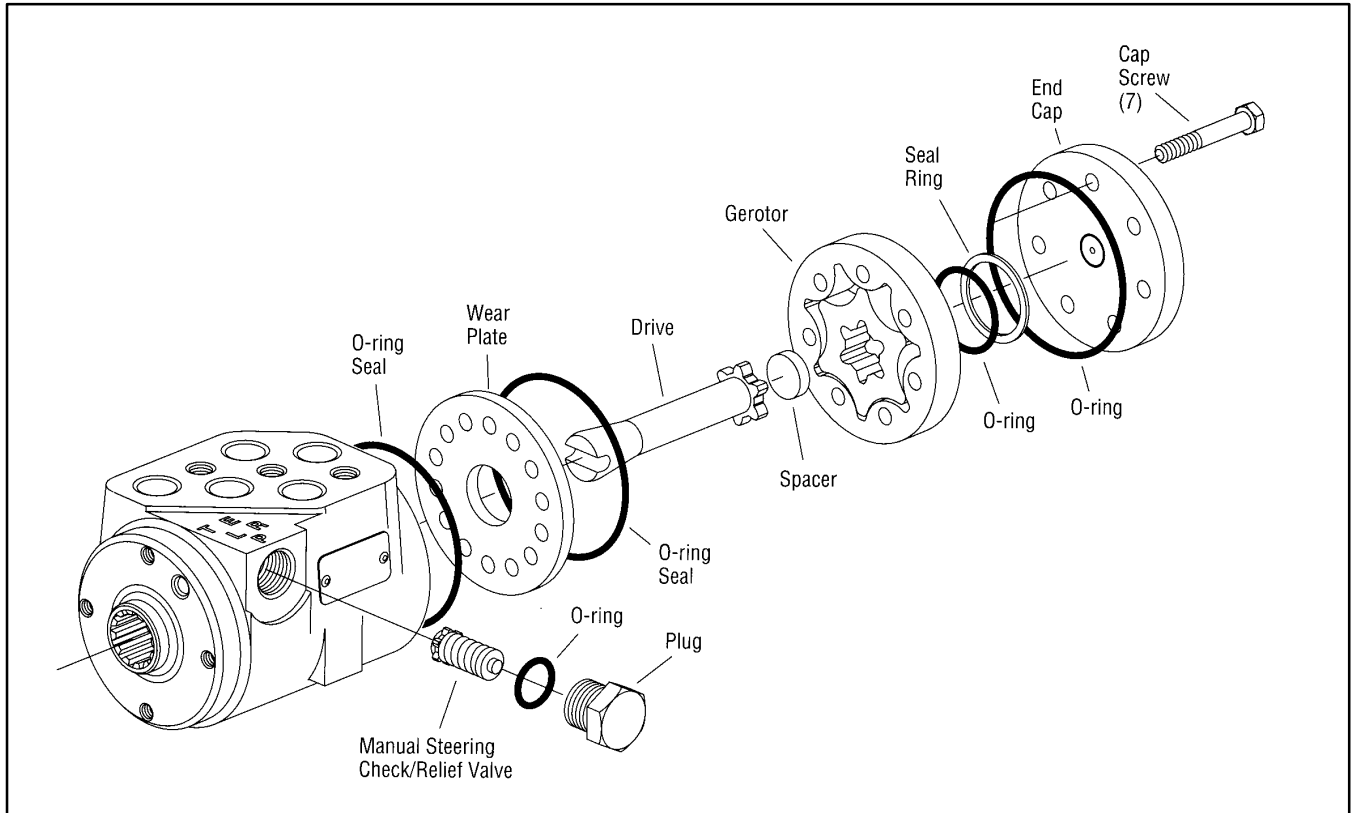

Figure 134
1. Remove the seven capscrews and disassemble the steering control unit as shown (Fig. 134).